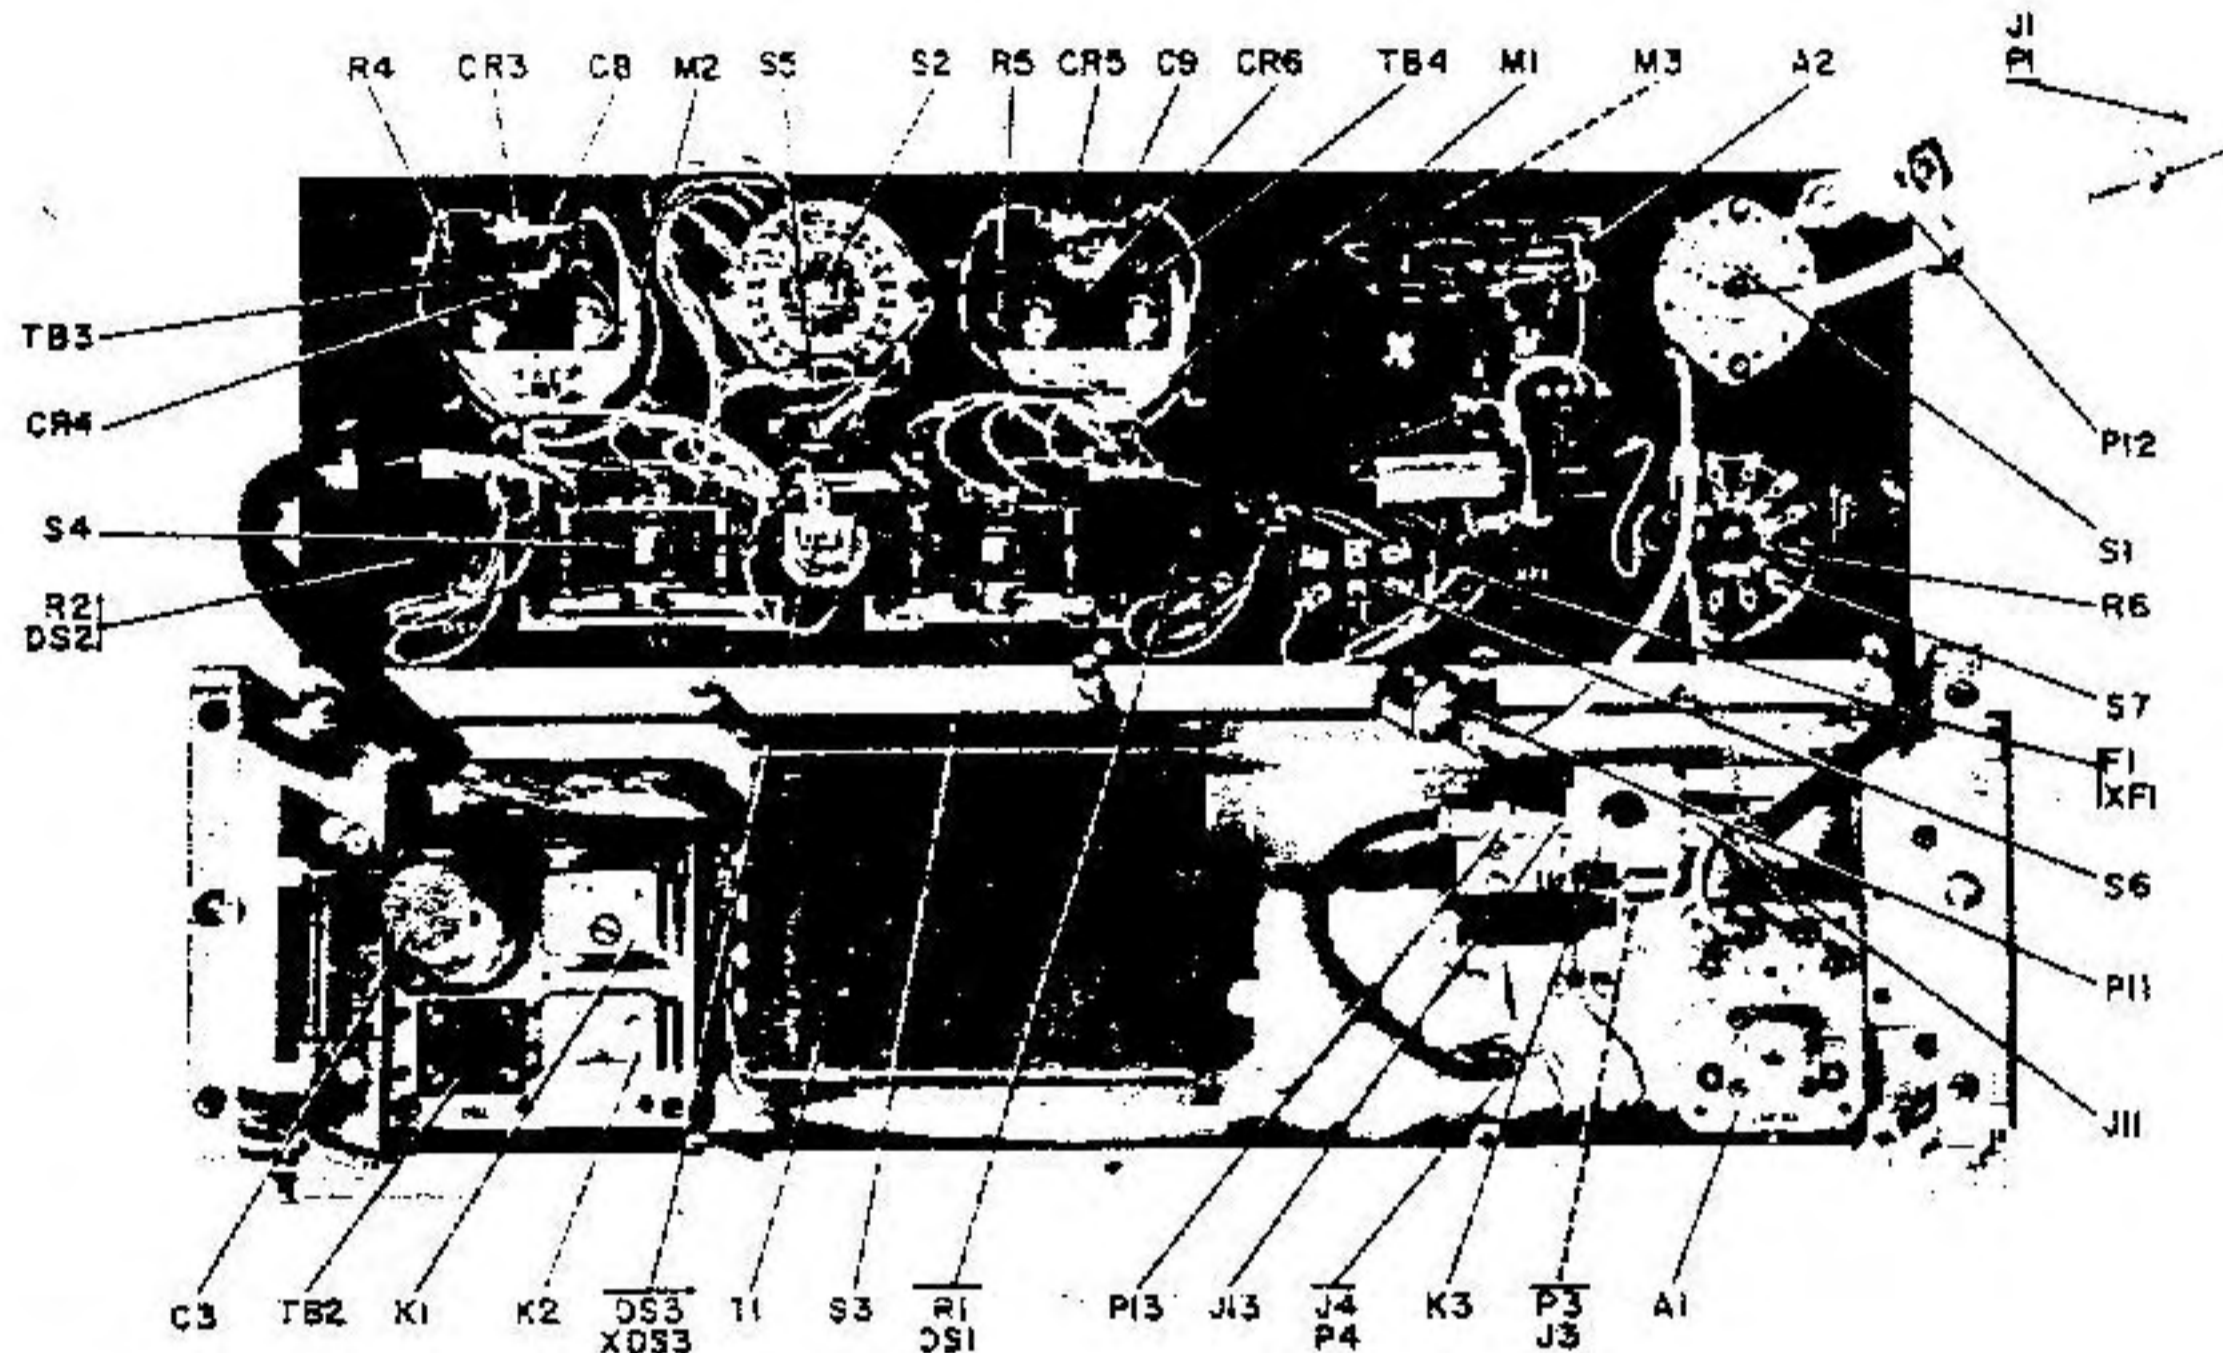

Figure 5-3. Coupler Control C-2698/SRA-22, Front Panel Removed
(1) Radio Set AN/XXX or associated transmitter should be de-energized and tagged.
(2) Release two fasteners on dust cover of coupler control and remove dust cover.
(3) Remove two screws that mount right side of coupler control to rack. This will allow unit to swing out.
(4) Remove coaxial connectors 2P1, 2P2, 2P3, and 2P4, and plugs 2P5 and 2P6 from connectors on rear panel of unit.
(5) Remove two screws that mount hinge to rack, holding unit to keep weight off hinge. Carefully lay unit on a bench.
(6) Remove coaxial plug 2P12 from directional coupler and plug 2P11 from relay 2K3.
(7) With a suitable wrench, remove nut and lockwasher from connector 2J1.
(8) Remove the 14 screws and lockwashers holding rear panel to chassis. This will allow the rear panel to swing down. Care should be taken not to damage the cable.
(9) Viewing coupler control from front, remove nine screws that mount front panel to chassis. This will allow front panel to swing down. Care should be taken not to damage cables.
(10) With front and rear panels removed, the disassembly or removal of components is obvious. Refer to figures 5-3, 5-4, 5-5, and 5-6 for location of components. The only adjustment necessary in this unit is that of potentiometers 2R1 and 2R2. Refer to paragraph 5-5b of this section for complete alignment.
(11) Perform the steps of paragraph 5-6a in reverse order for reassembly of front and rear panels.